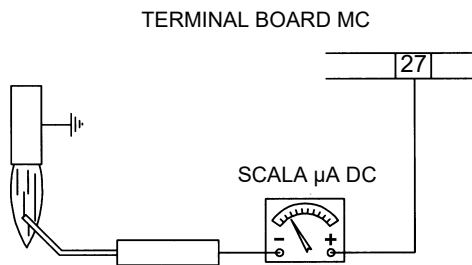

Fig. 2: Detection by electrode
1. Position VD on VB, fig. 2+3.